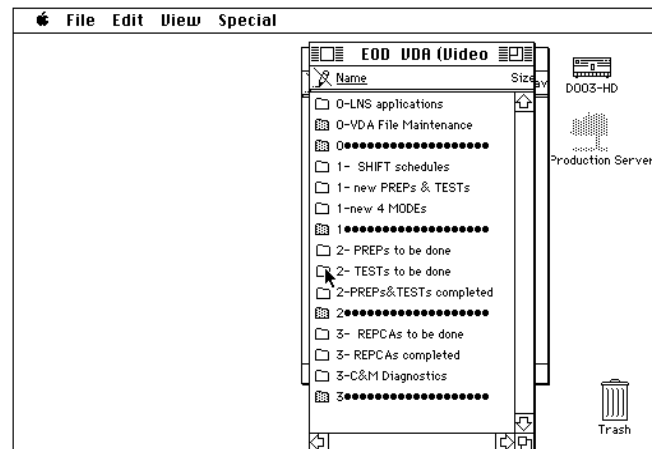

Figure 8
- 11.1 Position the mouse pointer on the "2-TESTs to be done" folder and double click to open it. See Figure 8.